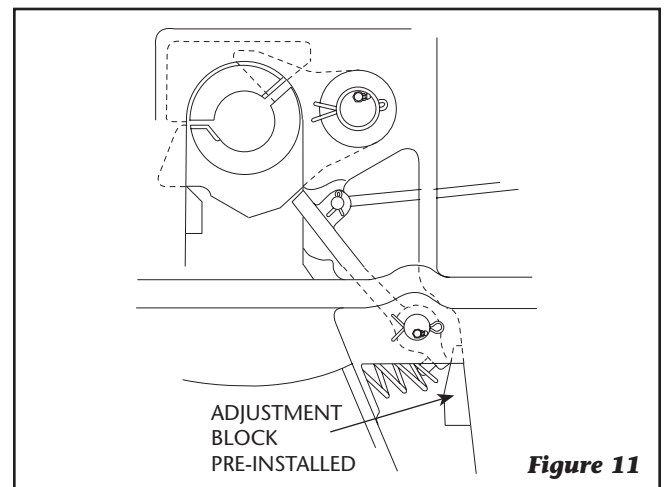

Figure 11
14.2 Procedures for installation of the secondary lock on models already equipped with an adjustment block (**Figure 11**):